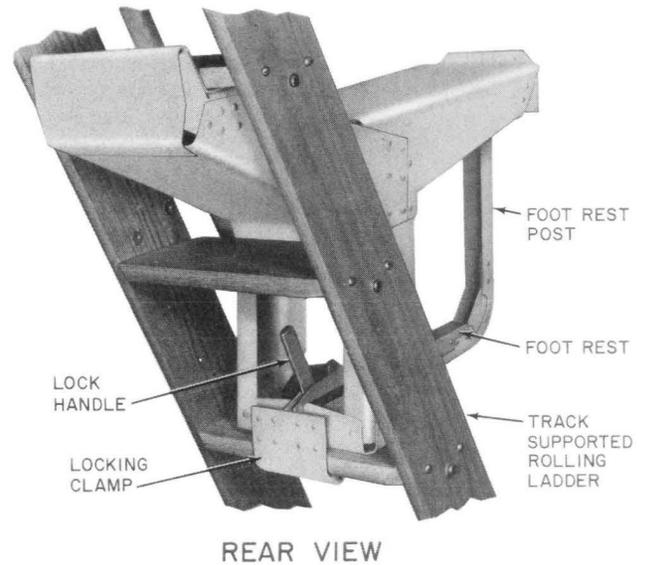

Fig. 8—KS-5173-02 Ladder Seat in Place on Track Supported Rolling Ladder
- 6.16 A metal ladder seat KS-5173-02 (Fig. 8) is placed on a ladder in the following manner: